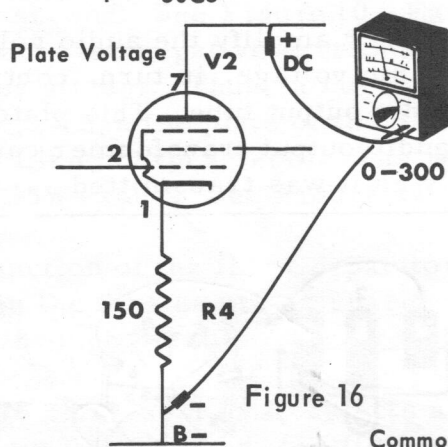

Figure 16
- 3 Adjust a VOM to the 0-300 volt DC range. Connect the positive (+) meter lead to the plate of the 50C5 tube. Connect the negative (-) meter lead to the common B- of the radio. This is lug 1 or 3 of terminal strip A. See Figure 16.